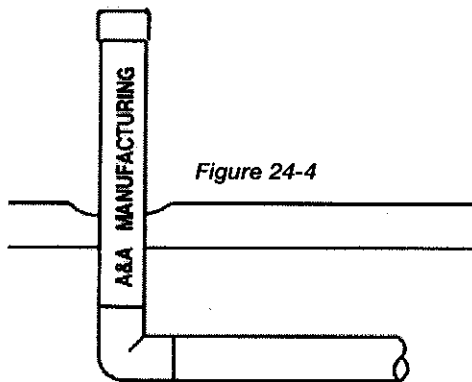

Figure 24-4
3. The gunite or shotcrete surfaces can be finished right up to the A&A 2" PVC risers. (See Figure 24-4). It is necessary to make a slight recess around the riser to facilitate cutting the riser flush with the pool floor (See Figures 24-4 and 24-5). A "three finger" swipe around the riser is sufficient.